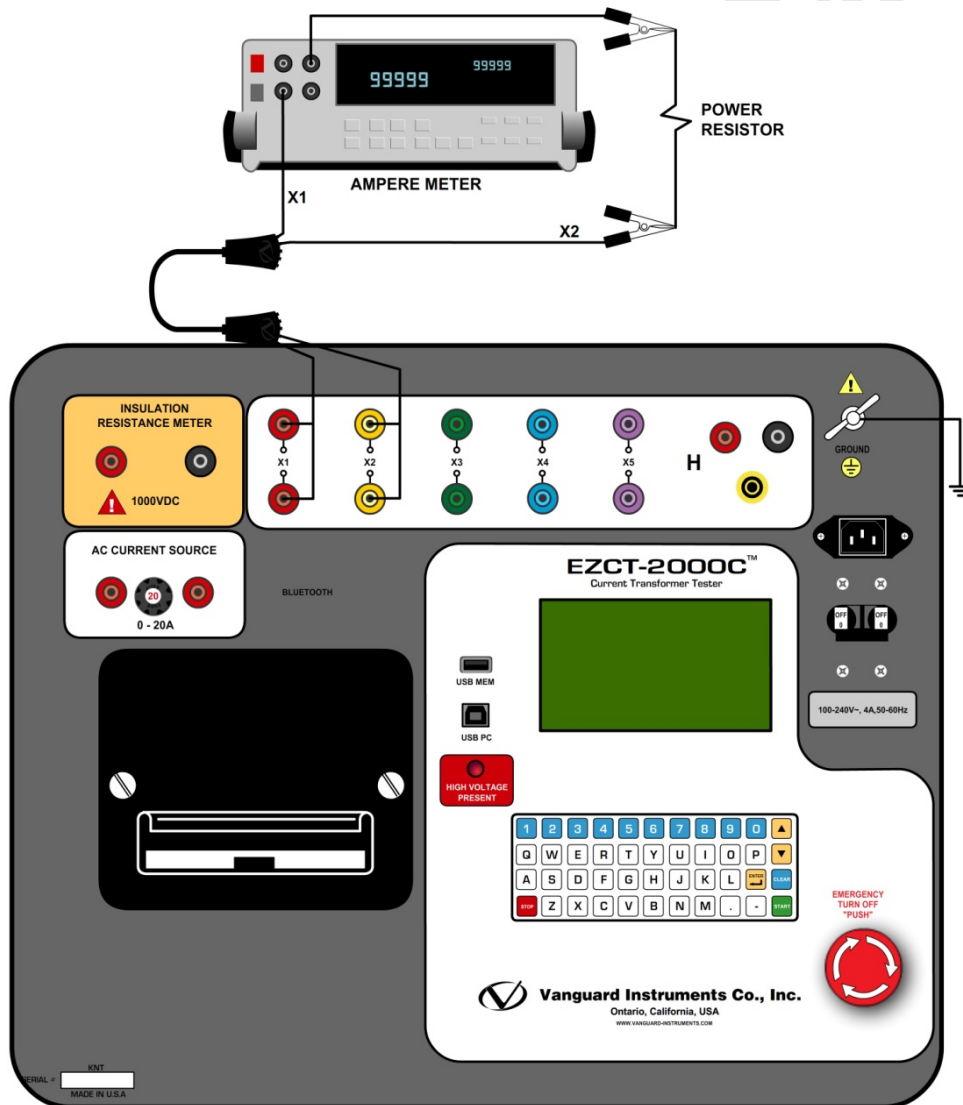

Figure 27. EZCT-2000C  $I_x$  Verification Test Connections
- Connect the X cables to a power resistor and an RMS ampere meter as shown in Figure 27.